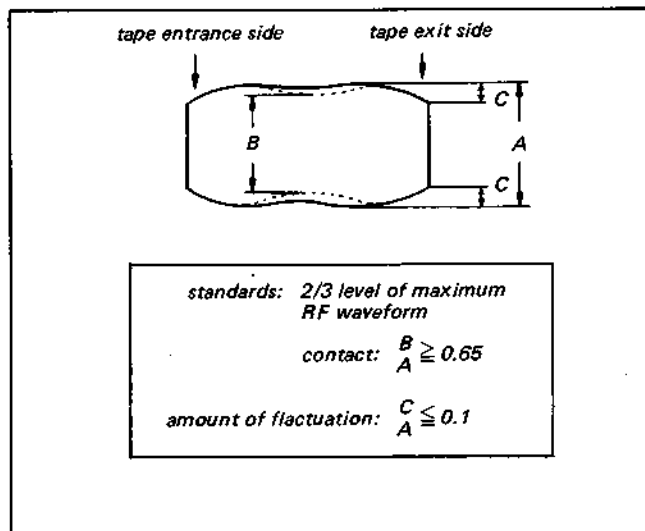

Fig. 4-2.
- 5) Confirm that the oscilloscope RF output waveform is flat, and that the amplitude is maximum. (It should increase and decrease, remaining flat, when the tracking knob is turned back and forth.) Also, when it is 2/3 of the maximum level of Fig. 4-2. A waveform, the minimum level (relative to whole area from entrance to exit) and fluctuation amount should be within the specifications in Fig. 4-2.